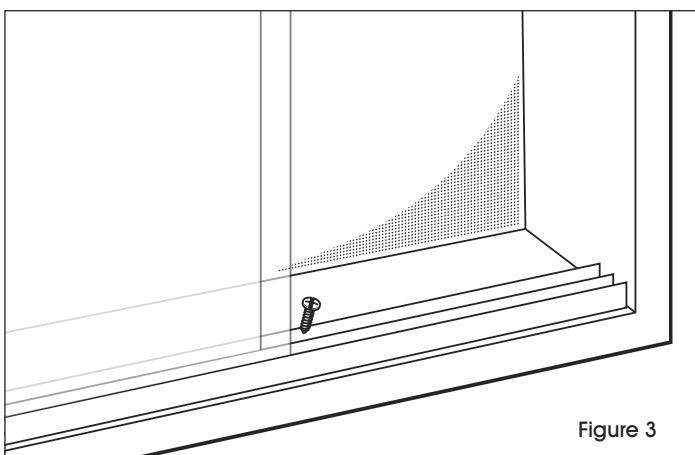

Figure 3
4. Drill the aluminum track onto the bottom of the message center. (See Figure 3)